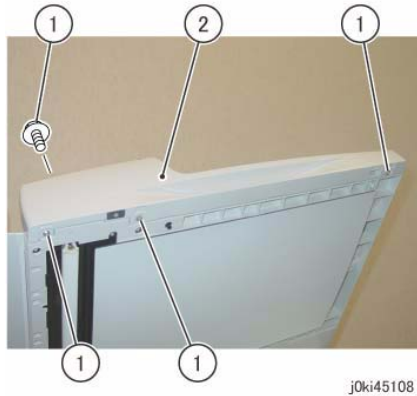

Figure 1 DADF Front Cover Removal
4. Remove the DADF Front Cover. (Figure 1)